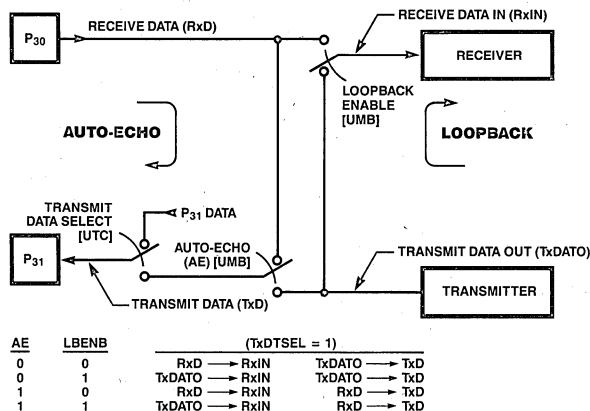

Figure 10-3. Auto-Echo/Loopback
As shown in Figure 10-3, the UART can be configured to automatically transmit any data coming in at the Receive Data input pin (P30) RXD. This auto-echo mode of operation is enabled by setting the Auto-Echo (AE) bit in the UART Mode B (UMB) register to 1. In addition, the Transmit Data Select (TXDTSEL) bit in the UART Transmit Control (UTC) register must be set to 1 for this mode to work correctly.